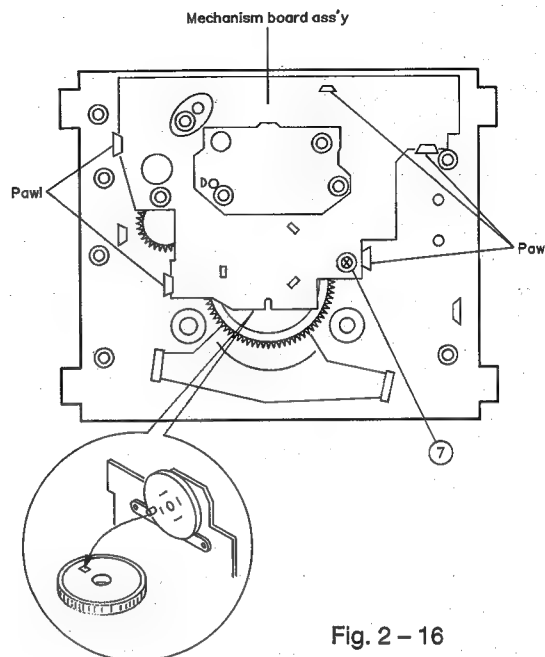

Fig. 2 - 16
◆ Control cam (Fig. 2 - 17, 2 - 18)
1. Release the control cam from two pawls. (Fig. 2 - 17)